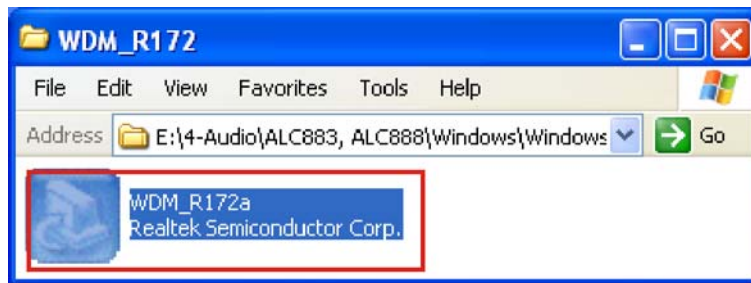

Figure 7-21: Audio Setup File
Step 2: Browse to the audio setup file directory (**Figure 7-21**).